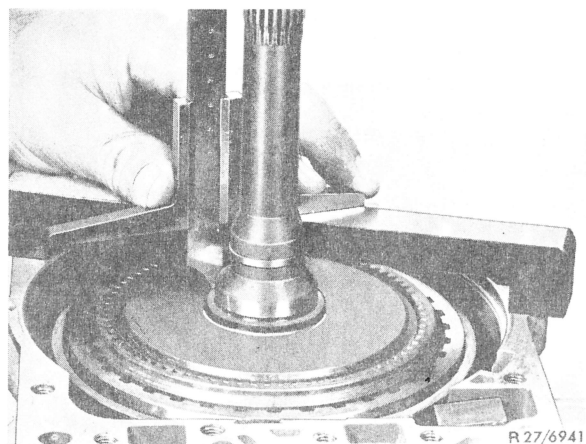

Fig. 55
**82** Measure end play of gear assembly by placing measuring bridge on transmission case and measuring dimension "A" by means of depth gauge (Fig. 55).